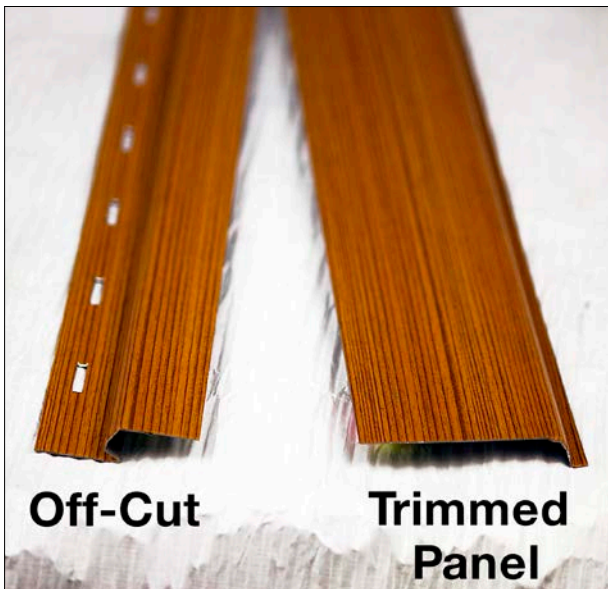

Fig.28
Step 3: After cutting the panel, you will have the finished cut piece and the surplus off-cut (Fig.28).